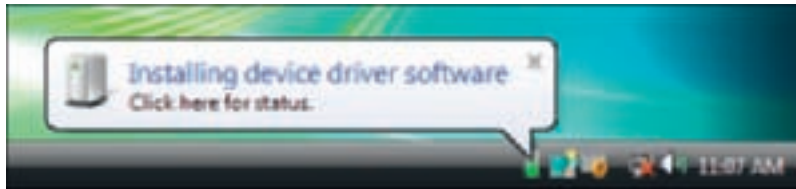
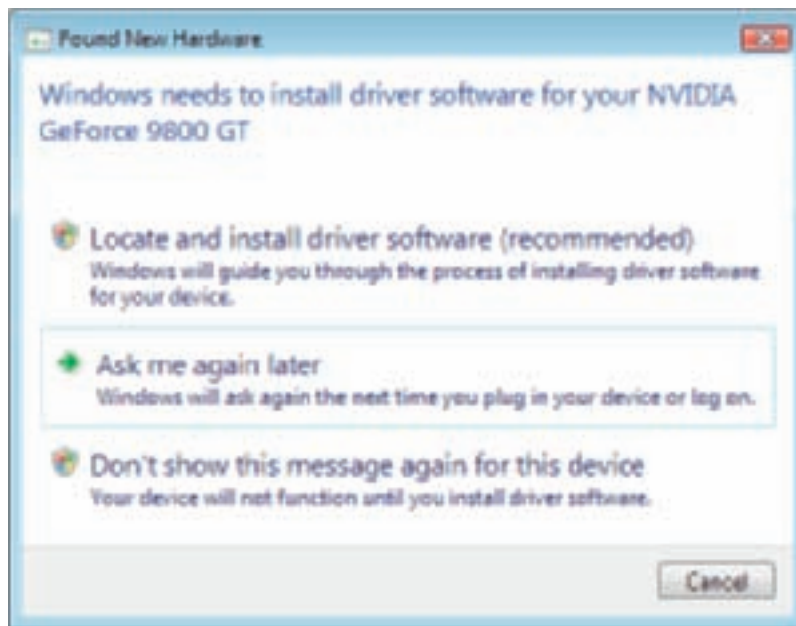

Figure 9-73 The Vista Found New Hardware Wizard attempts to install device drivers
Figure 9-74 Cancel the automatic Windows installation
4. When Windows starts up, it will launch the Found New Hardware Wizard (see Figure 9-73). You can install the embedded generic Windows video drivers by allowing the wizard to complete. However, to get the best performance from the card, cancel the wizard (see Figure 9-74) so you can use the drivers that came with the card.